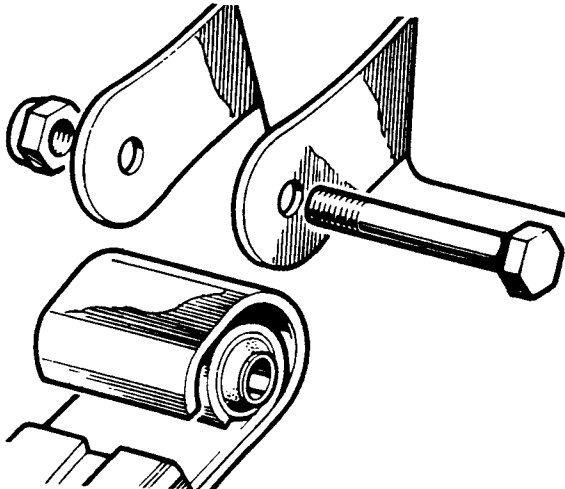

Fig J1.10
- (12) Refer to Fig J1.10. Slacken the six shackle pins at the rear road springs, then remove the two rearmost shackle pins.
- (13) Lower and withdraw the rear axle.